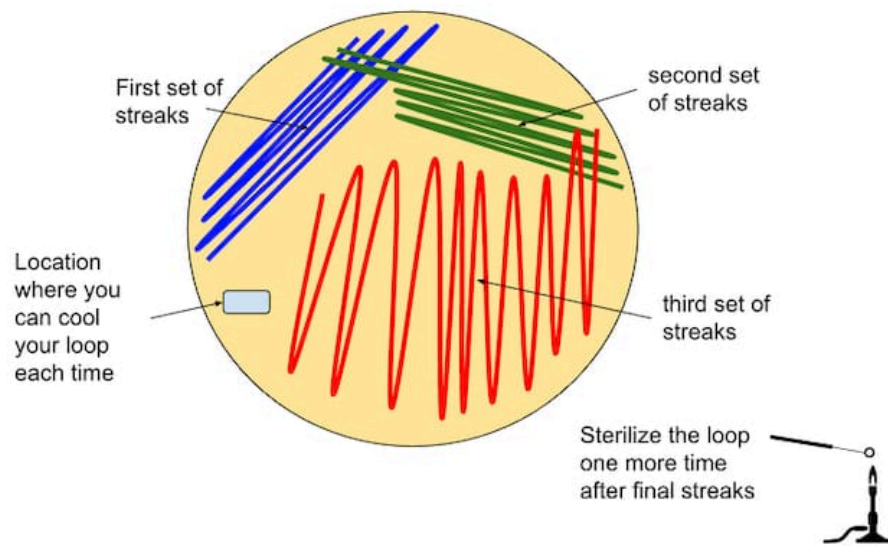

Figure 5.11
3. Create the third streaks following the pattern below. Be sure to pass the loop through the original (2nd) streaks 1-5 times in order to spread the bacteria out further. (Figure 5.11)